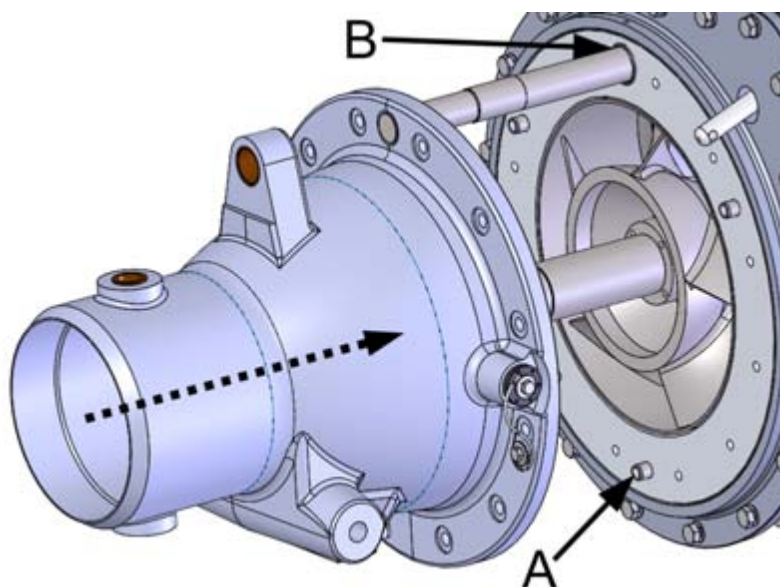

Figure 78. Installing the stator
1. Push the stator into place with the end of the shaft in the rear bearing housing and the steering shaft pushing through the bushing on the stator (figure 78).
The stator is centred with the pins in the frame of the jet (figure 78, point A, 3 pcs). Make sure that the steering shaft o-ring is undamaged and in place (figure 78, point B). Apply some petroleum jelly onto the surface of the o-ring.